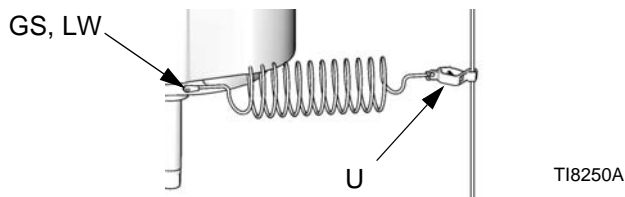

FIG. 2. Ground Wire
Pump: use supplied ground wire and clamp. See FIG. 2. Use the ground screw (GS) and lockwasher (LW) to attach the ground wire (U) at the rear of the air motor. Tighten the screw securely. Connect the other end of the ground wire to a true earth ground.